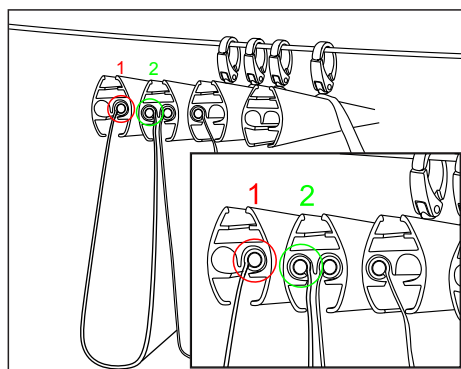

Fig. 24
- Start from either end. Skip the first circular channel and insert a shade panel by placing its rounded edges into the second circular channel of the first profile and the adjacent circular channel of the next profile. With both tips inserted in the channels pull the panel into the profiles (Fig.24).